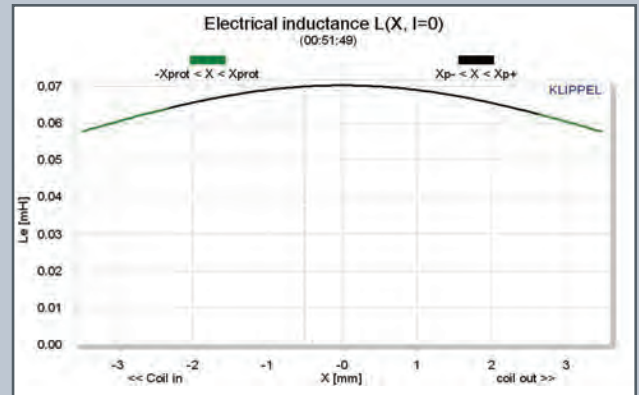

FIGURE 9: Klippel Analyzer $L_e(X)$ curve for the Wavecor FR070WA01.
Figure 9 gives the inductance curve Le(X) for the FR070WA01. Inductance will typically increase in the rear direction from the zero rest position as the voice coil covers more pole area; however, the FR070 inductance stays mostly constant as the coil moves in due to the copper shorting ring. The inductance variation is only 0.05mH from the in and out Xmax positions, which is very good.